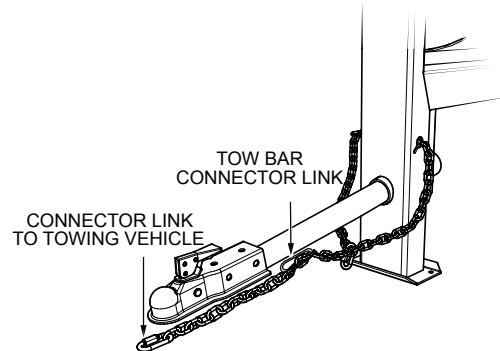

Figure 9. Extending Safety Chain
5. Extend the safety chain along the length of the tow bar (Figure 9), looping it through the tow bar's connector link. Remove any excess chain slack.
6. Connect the free end of (connector link) the safety chain to the towing vehicle (Figure 9). Remember it is critical that the length of the chain be properly adjusted, to prevent the draw bar and the front of the mixer stand from dropping to the the ground (contact) in the event the draw bar becomes disconnected from the towing vehicle.